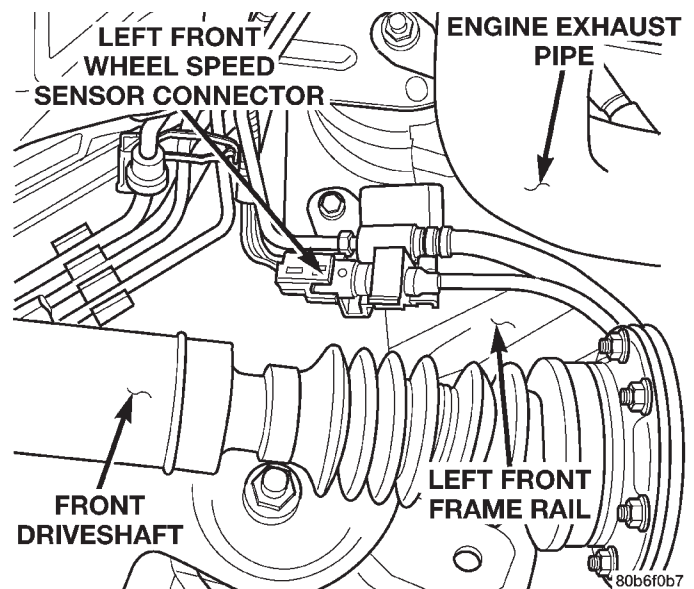
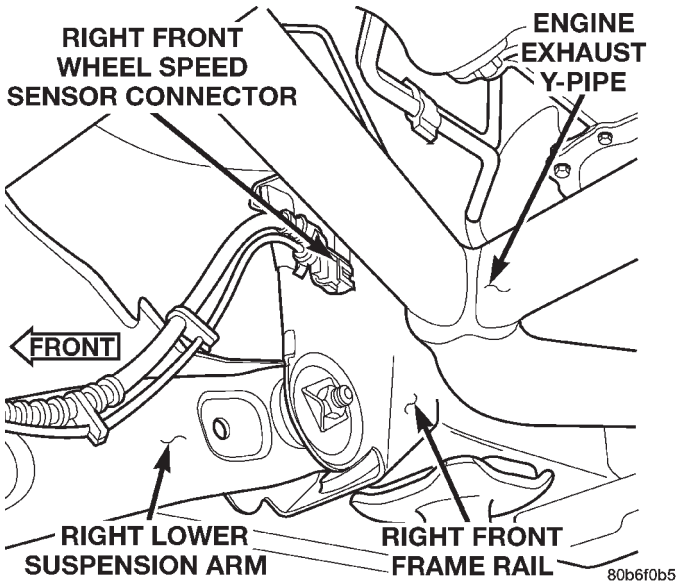

Fig. 9 Left Sensor Connector
Fig. 10 Right Sensor Connector
- (5) Disconnect the sensor from the sensor harness (Fig. 9) and (Fig. 10).
- (6) Remove sensor and wire.